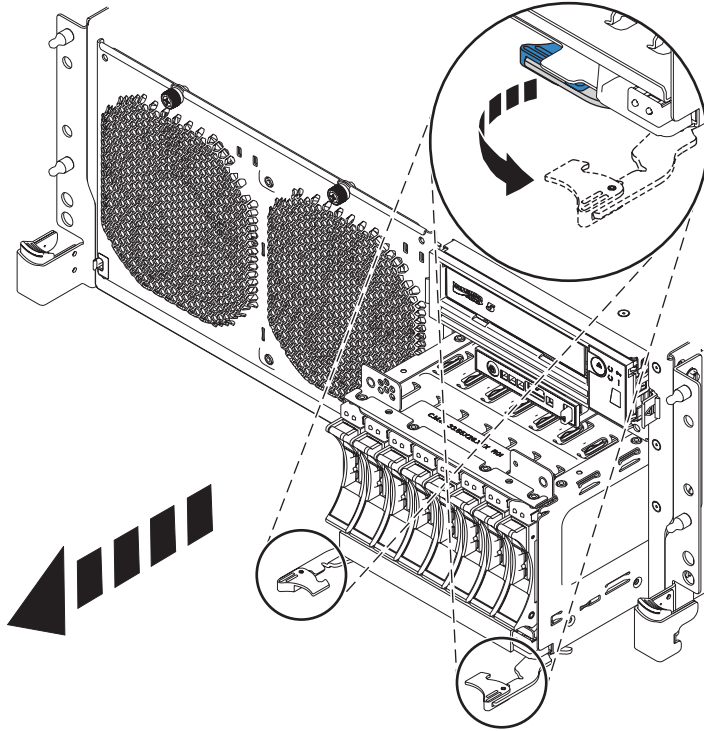

Figure 31. Removing the disk drive cage
- b. Grasp the handles and pull the disk drive cage toward you. See Figure 31 on page 57.